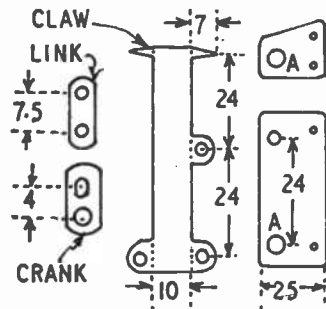

Fig. 1—Parts for movement; mm. dimensions
The necessary items are shown in Fig. 1, and are cut from brass or aluminium at least $\frac{1}{16}$ in. thick. The two large holes (A) are drilled just large enough to clear the axle used, as it rotates in them. The other holes which are used for 8 B.A. pivot bolts are drilled just large enough to clear the bolts. (The size and exact position of the other small holes, used to screw the bearing pieces in place, is unimportant.) The really important dimensions are those of 24mm. between bearing holes and claw, and of 7 $\frac{1}{2}$ mm. between the holes in the link. All the parts can be cut with saw and filed to shape.